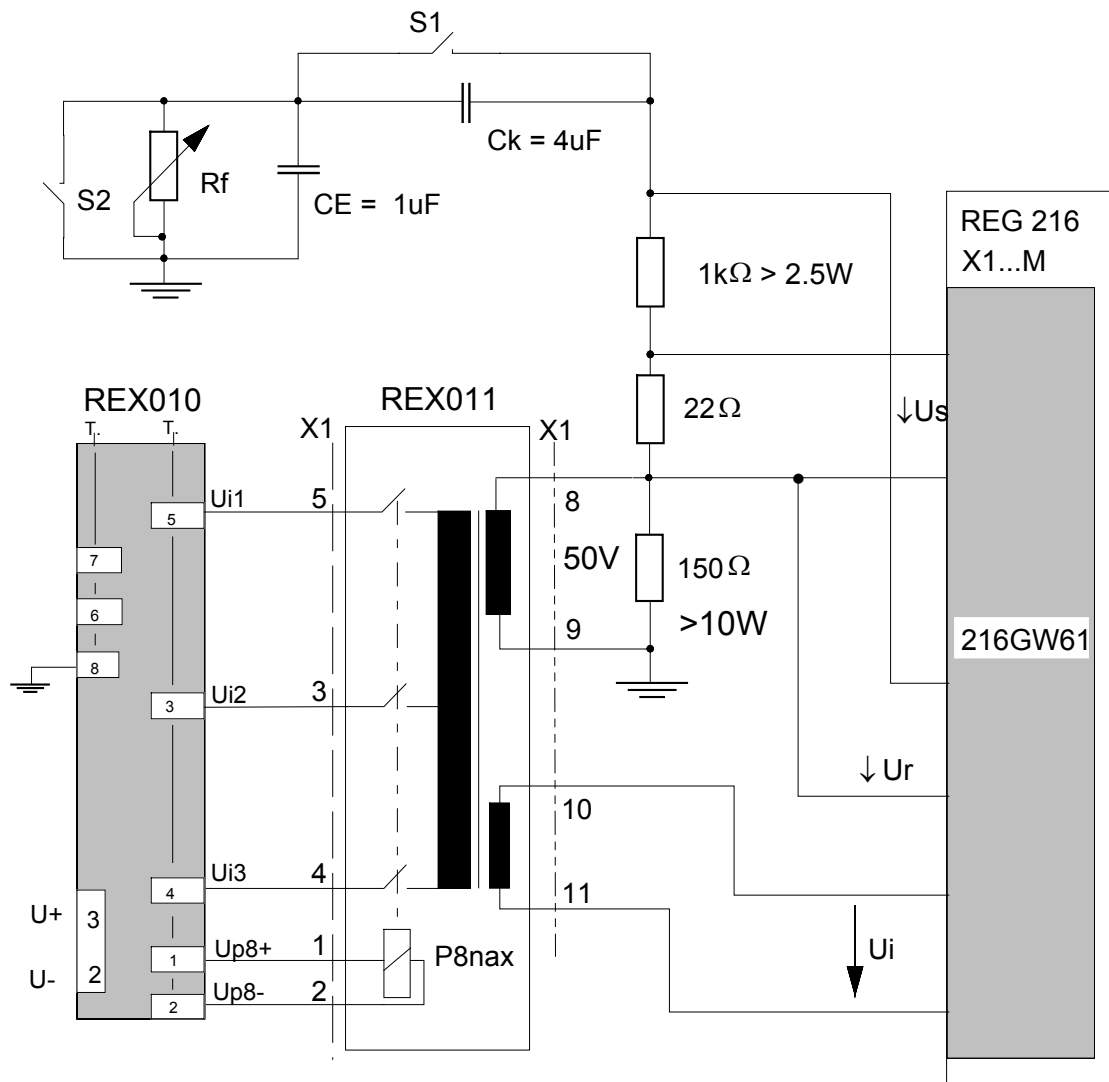

Fig. 2.27 Wiring diagram for REX 011 for testing without the generator
- Fig. 2.27 Wiring diagram for REX 011 for testing without the generator
In order to test the operation of the injection unit Type REX 010 plus injection transformer block Type REX 011 or REX 011-1, -2 and the stator and rotor ground fault protection functions without them being connected to the protected unit, set up the test circuit shown in (Fig. 2.27 or Fig. 2.28). The two grounding resistors RE and RP are used for both stator and rotor protection schemes to simplify the circuit.